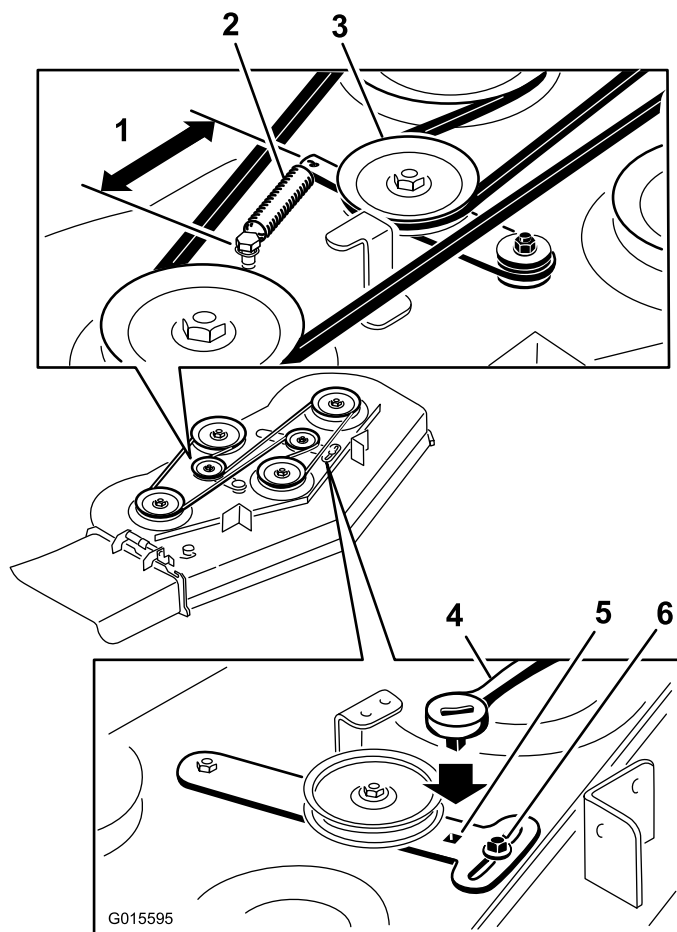

Figure 67
5. Remove the worn mower belt (Figure 67).
6. Install the new mower belt around the deck pulleys and clutch pulley (Figure 67).
7. Using a ratchet in the idler arm, tighten the idler pulley until the spring is stretched 6-1/2 inches (165 mm) from hook to hook (Figure 67).